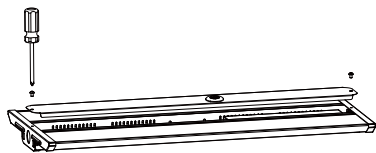

Figure 9
Step1.Open the face cover with screw driver;[Figure 9]